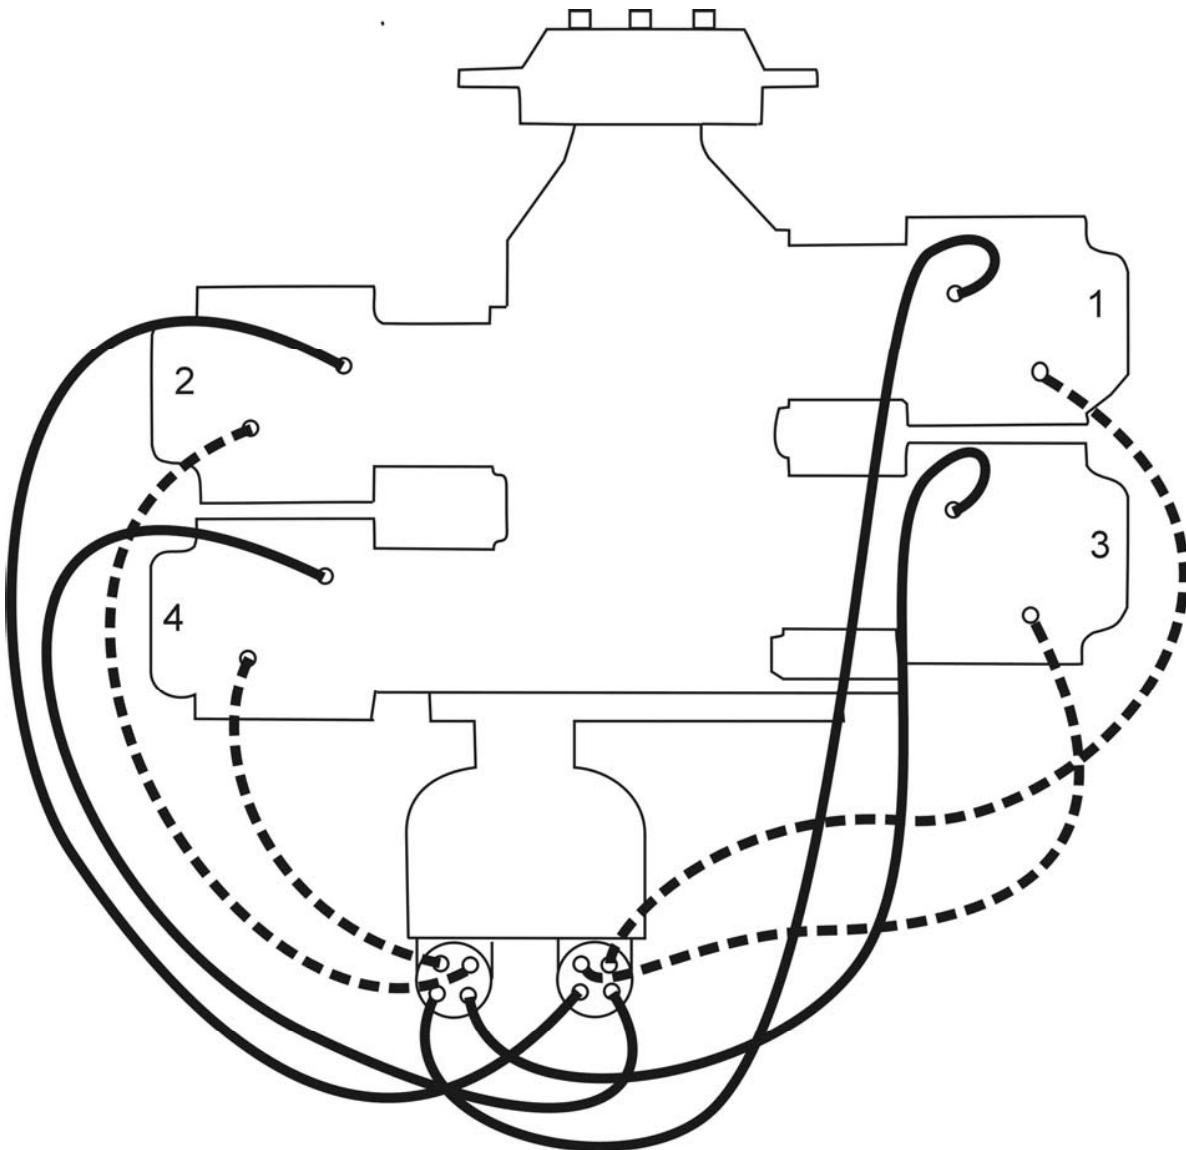

Figure 5-1. Ignition Wiring Diagram – Dual Magneto
- (7) Hold the magneto in its No. 1 firing position (tooth in window center and pointer over R or L mark on rotor) and install magneto to the engine and loosely clamp in position.
- (8) Attach red lead from the timing light to left switch adapter lead, green lead of timing light to right switch adapter lead and the black lead of the light to magneto housing.
- (9) Turn the entire magneto in direction of rotor rotation until the red timing light comes on.
- (10) Rotate the magneto in the opposite direction until the red light just goes off indicating left main breaker has opened. Then evenly tighten the magneto mounting clamps.
- (11) Back the engine up approximately 10° and then carefully "bump" the crankshaft in direction of rotation, at the same time observing the timing lights.
- (12) At the No. 1 firing position of the engine, the red light should go off indicating left main breaker opening. The right main breaker monitored by the green light, must open within \pm 2 engine degrees of the No. 1 firing position.
- (13) Repeat steps (9) thru (11) until the condition described in paragraph (12) is obtained.
- (14) Complete tightening of the magneto securing clamps by torqueing to 150 in.-lbs.
- (15) Recheck timing once more and if satisfactory disconnect timing light. Remove adapter leads.
- (16) Reinstall plugs in timing inspection holes and torque 12-15 in.-lbs.
- (17) Install the harness leads as shown in Figure 5-1 to spark plug and connect switch lead to proper terminal.